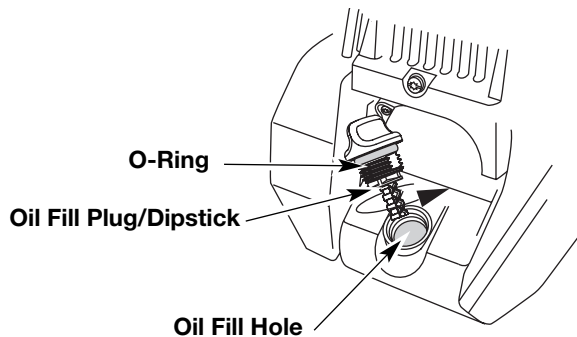

Figure 27
**NOTE:** Make sure the O-ring is in place on the oil fill plug/dipstick when checking and changing the oil. See Figure 27.